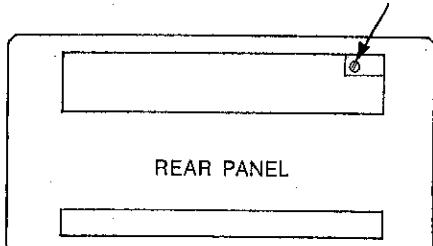

Figure 4-1. Zero Offset Adjust
A zero offset screw adjustment is located at the rear panel. This adjustment has a nominal range of  $2.0^{\circ}$ . The unit is furnished with this adjustment set to zero. In some applications it may be desirable to offset this adjustment to compensate for some system error or minor synchro misalignment. Simply insert a small screwdriver or alignment tool through the hole provided and adjust as necessary (figure 4-1). Set switch SW1-2 to ON for a + (plus) offset and to OFF for a - (minus) offset.
- c. Adjust rear panel reference offset potentiometer for an exact 000.00 reading on the Model 801 front panel display (refer to figure 4-1). To obtain the correct reading, DIP switch SW1-2 +Offset (Table 2-3) may need to be set either to the ON (+) or OFF (-) position depending upon the offset needed.
- c. Adjust rear panel reference offset potentiometer for an exact 000.00 reading on the Model 801 front panel display (refer to figure 4-1). To obtain the correct reading, DIP switch SW1-2 +Offset (table 2-3) may need to be set either to the ON (+) or OFF (-) position depending upon the offset needed.
If any of the previous recorded resolver or synchro readings are not within specifications, adjust Display Offset (figure 4-1) potentiometer located at rear of unit so that the largest positive and negative errors are of equal magnitude. If, after balancing the worst case positive and negative errors, the unit does not perform to rated specifications ( $\pm .05$  or  $\pm .03$ ), consult the factory.